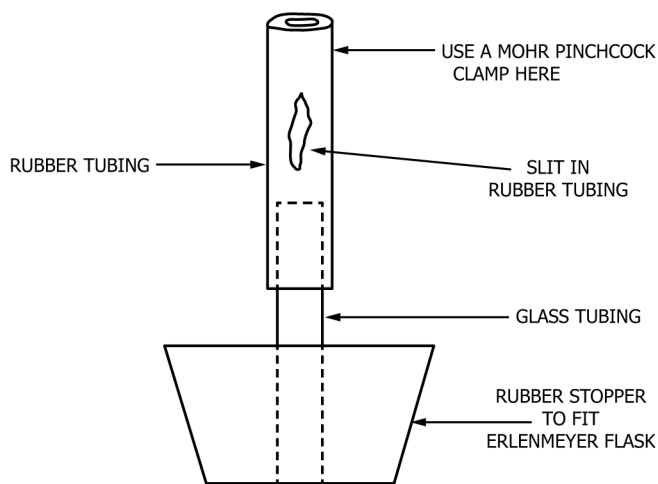

FIG. 1 Apparatus
5.1 **Bunsen Valves**—A device constructed so that when used with an Erlenmeyer flask, the sample vapors can exit the flask while protecting the flask's liquid contents. See Fig. 1 for details.